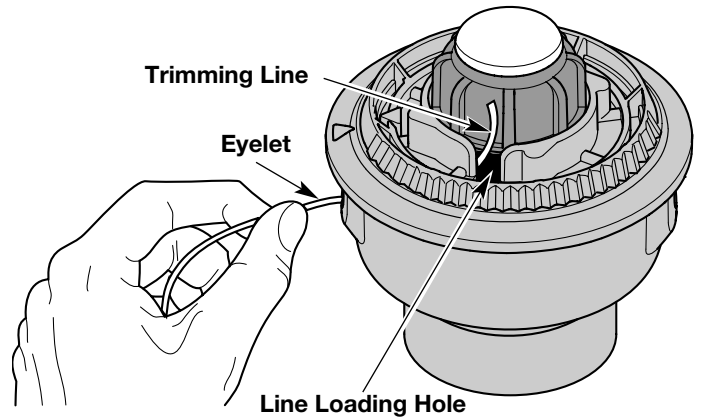

Fig. 9
3. Pull old line out of the line loading and line locking holes (Figs. 9 and 10).
4. Insert a piece of trimming line into one of the two eyelets in the outer spool. Push it up through the line loading hole in the inner reel (Fig. 9). Do not bend the line when inserting it into the eyelet.